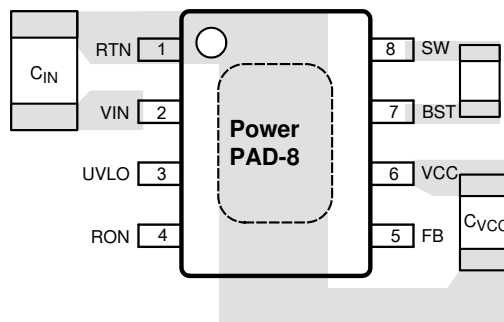

Figure 10-1. Placement of Bypass Capacitors
1. C_{IN} : The loop consisting of input capacitor (C_{IN}), V_{IN} pin, and RTN pin carries switching currents. Therefore, the input capacitor should be placed close to the IC, directly across V_{IN} and RTN pins and the connections to these two pins must be direct to minimize the loop area. In general it is not possible to accommodate all of input capacitance near the IC. A good practice is to use a 0.1- μ F or 0.47- μ F capacitor directly across the V_{IN} and RTN pins close to the IC, and the remaining bulk capacitor as close as possible (see Figure 10-1).
2. C_{VCC} and C_{BST} : The V_{CC} and bootstrap (BST) bypass capacitors supply switching currents to the high and low side gate drivers. These two capacitors should also be placed as close to the IC as possible, and the connecting trace length and loop area must be minimized (see Figure 10-1).